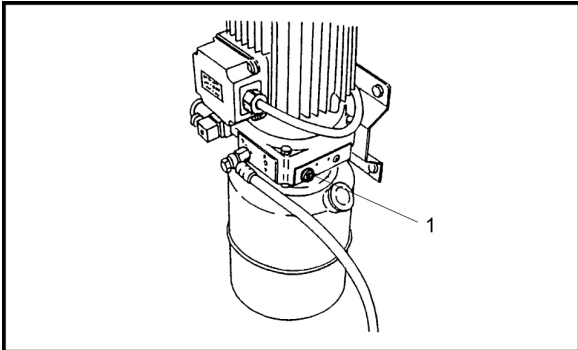

Fig 23 Relief Valve
- In the case of excess weight on the lift the relief valve on the hydraulic power unit will open (Pos.1, fig.23).